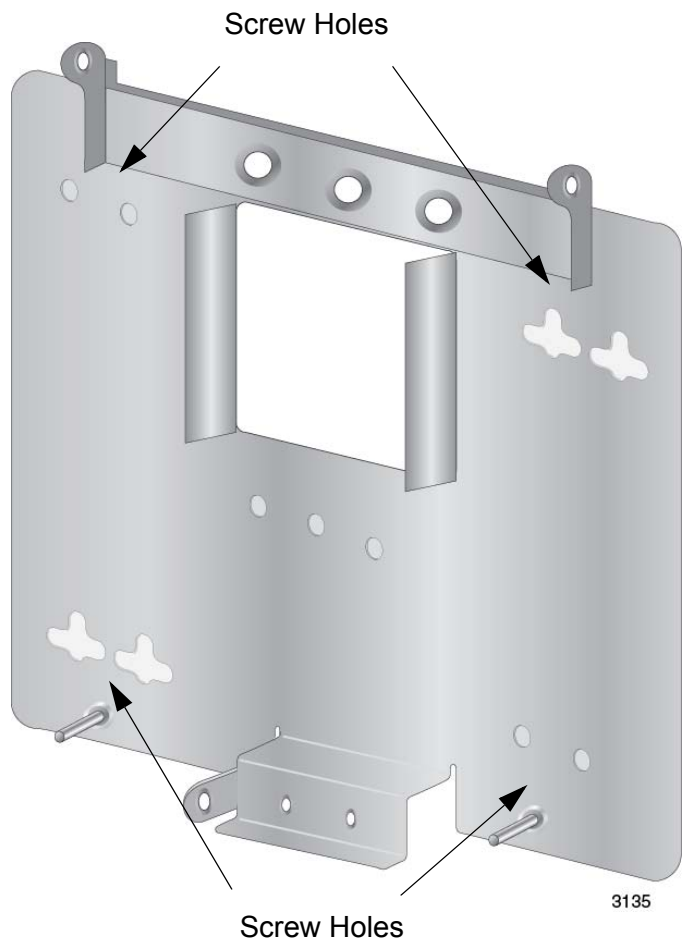

Figure 11. Screw Holes on the Bottom Panel of the AT-TQ3600 Bracket
- ❑ The bottom panel has eight screw holes. Refer to Figure 11 on page 36. The holes are grouped in pairs. The unit should be secured to the wall or ceiling with a minimum of four screws. You may use either screw hole in a pair when choosing the holes.